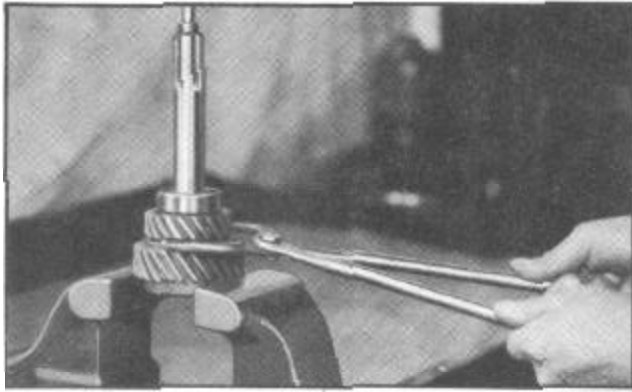

Figure 6--Removing Mainshaft Intermediate Gear Retainer Using Tool J-448-1
32. Remove the seven mainshaft thrust balls and the twenty-six mainshaft needle rollers (12). Place drive gear assembly in a vise and insert one jaw of the lock ring remover tool J-448-1 through the opening in the gear gripping
the lock or retaining ring (19), placing the opposite jaw just above the lock ring as shown in Figure 6.